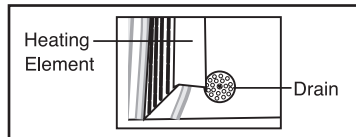

Fig. 8
5. Wipe down heating elements with warm water and cloth. (Fig. 8)